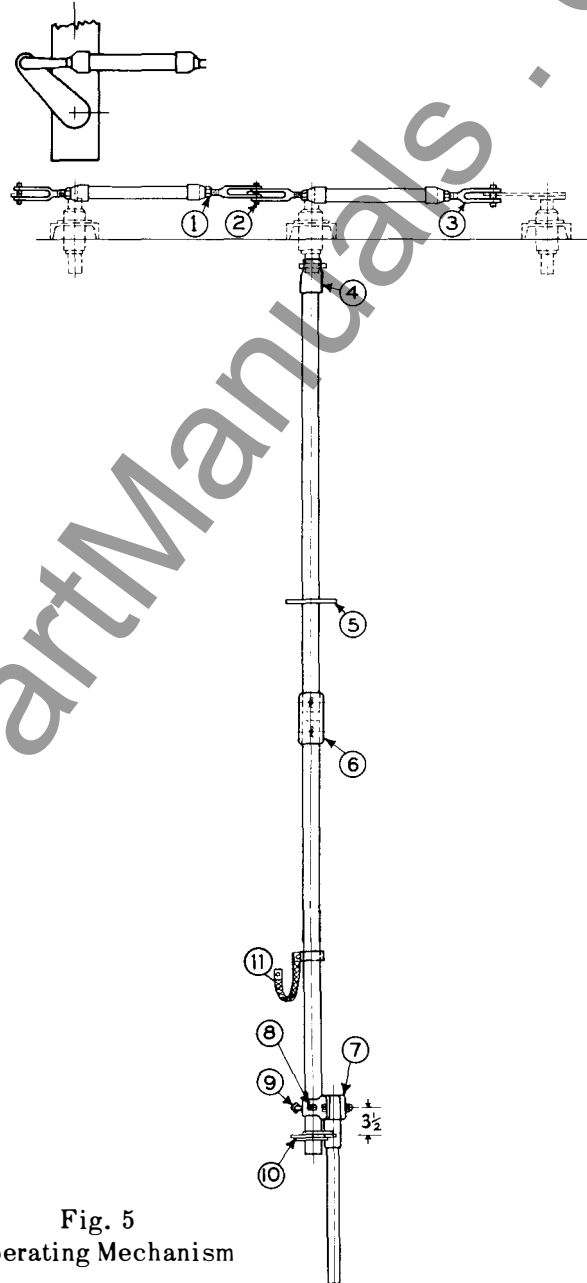

Fig. 5
b -- Handle Locking Plate Stop -- This so-called "stop" arrangement is found at the bottom of a vertical operating pipe, (10) of Fig. 5. It consists of two galvanized steel stampings mounted on a pipe guide plate and can be adjusted in an arc to give a required rotation of the vertical torsional operating pipe.
For fourth bearing mechanisms, begin with the pole nearest the fourth bearing. Lengthen or shorten the rods to suit phase spacing by turning clevis (3) of Figure 5. One-half turn of clevis equals 1/16 inch. Then, lock jam nut (1) and install cotter pins.
**Vertical Pipe Assembly** -- If the operating mechanism is "Direct" (coupled to one of the pole units as illustrated in Figure 5, attach pipe coupling (4), and the first section of the operating pipe to the switch rotor.
**Guide Plate and Couplings** -- If more than one section of pipe is necessary, a guide plate (5), Figure 5, is furnished which should be slipped over the pipe. The pipe splice (6), should be put in place to couple the pipe sections. If additional guide plates are furnished, they should be slipped over the pipe. After the operating pipe and handle have been completely installed, the guide plates should be mounted to hold the pipe in alignment.
**Operating Handle and Lock Plate** -- As illustrated in Figure 5 slide handle clamp (7) and lock plate (10) over the lower end of the pipe and fasten the lock plate in position at the height desired. Recommended height is approximately 3'-6" from the ground level. With switches in fully closed position, set the torsion type handle clamp with its centerline  $3\frac{1}{2}$ " above the lock plate and with the handle 45 degrees to the right of the lock plate center as you face the plate. Temporarily fasten the handle to the pipe with the set screw (9).
**Ground Connections** -- A flexible ground connection (11) Fig. 5, should be installed to suit the installation. For multi-revolution mechanisms, the type GRD grounding device is supplied. See Fig. 6.
Be sure all blades operate to the fully closed position when the handle is locked closed. Finally, drill  $5/8$ " hole for pin (8) of Figure 5, and permanently secure the handle to the vertical operating pipe.